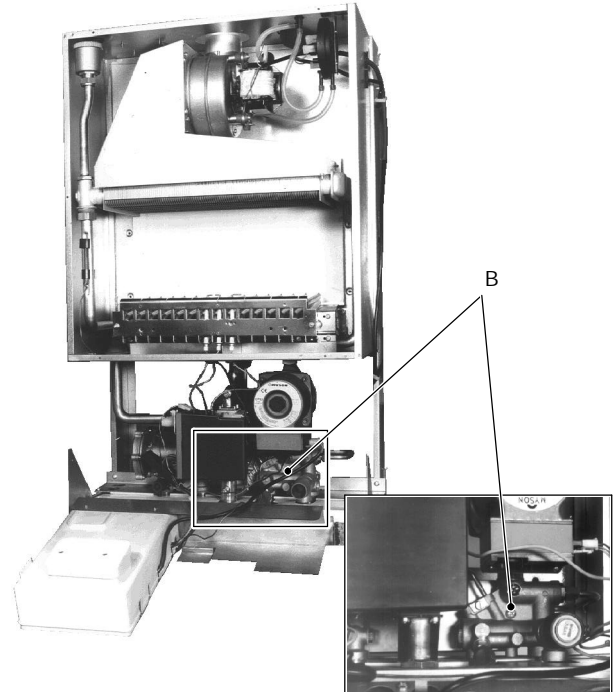

fig. 17
- 3 Completely unscrew the two Allen key screws B (in fig. 17 the right one is shown) which hold the exchanger to the brass deviator groups;